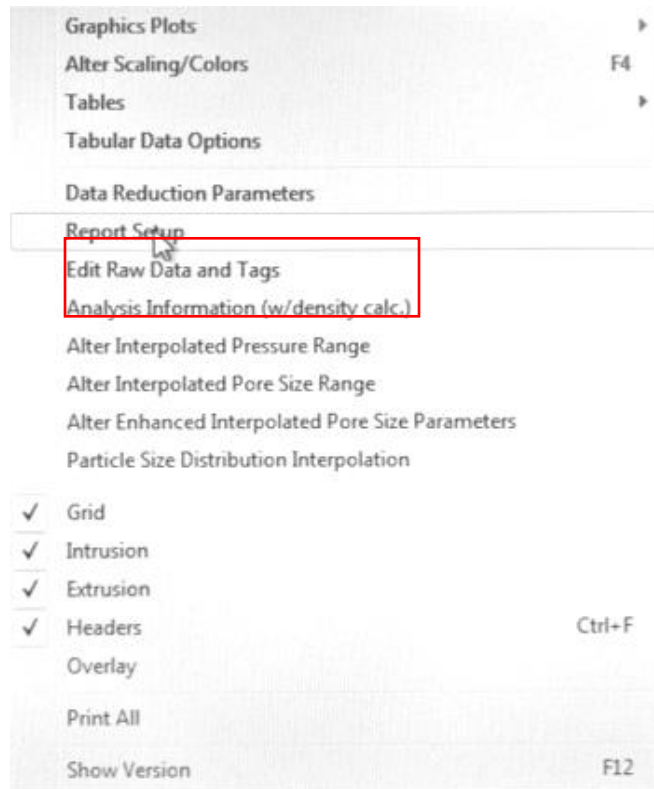
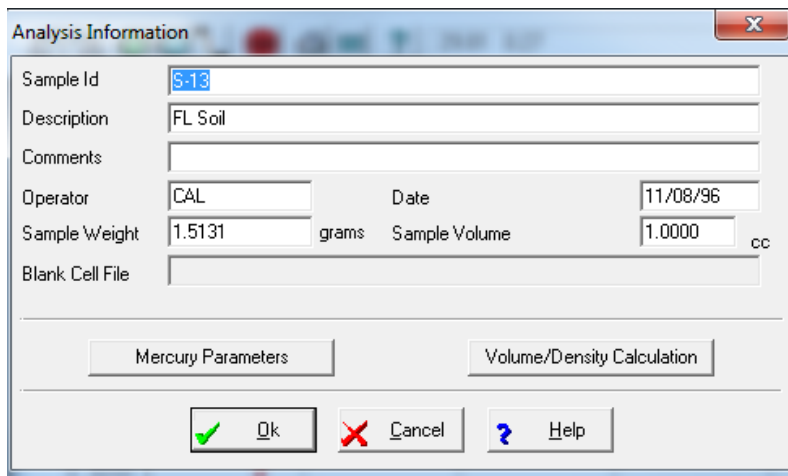

Figure 41. Options box highlighting options for editing a file
Figure 42. Analysis information dialog box
- If data needs to be truncated or a weight or name needs to be updated, these can be edited. Again, right click the main “Raw Volume vs. Pressure” and select either **Analysis Information** or **Edit Raw Data or Tags** as shown in Figure 41. In the dialog box (Figure 42) make whatever changes are necessary and then save the file with the changes.